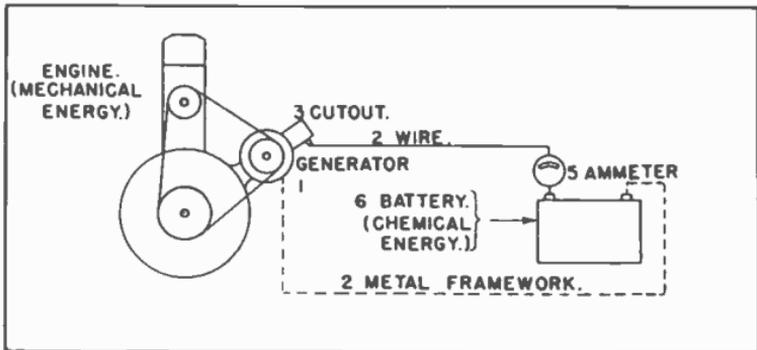
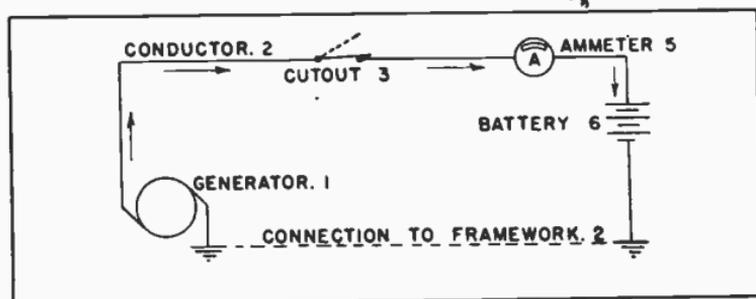

Fig. 9 A Portion of the Auto-electric System.
Fig. 10. Simplified Diagram of the Auto-electric System.
Fig. 9 shows the auto-electrical parts which we shall consider first. The initial source of energy is the automobile engine which produces mechanical motion. From here we may go on with our classification according to the numbered groups as previously listed. Corresponding numbers are on Fig. 9.
**Group 4.** In the system of Fig. 9 the generator is designed and automatically regulated to produce just the right amount of force and other characteristics in the electric current so that this current will produce the desired chemical changes inside the battery. Consequently, in this part of the auto-electric system we require no additional devices for changing the kind of current which is being produced.
In the system of Fig. 9 we started out with mechanical energy taken from the engine and ended with chemical energy stored in the battery. Probably you already knew that a storage battery does not store electricity in the form of electricity, but simply undergoes internal changes during the "charging" process which enable the battery later on to produce electric current while it is "discharging."
The electrical parts and wires in Fig. 9 make up what we call an **electric circuit**. Fig. 10 is a simplified diagram of this circuit in which the parts are represented by "symbols" rather than by pictures. These, and other standard and universally recognized symbols, make it easy for anyone to quickly draw correct electrical diagrams that are understood by everyone else in the business.
In the whole automobile electrical system (Figs. 9 and 12) we commenced with mechanical energy of motion from the engine, changed it to electrical energy in the generator, then to chemical energy in the battery, then changed this chemical energy into light, sound, heat, and more mechanical energy or motion. All electrical systems are like that, just